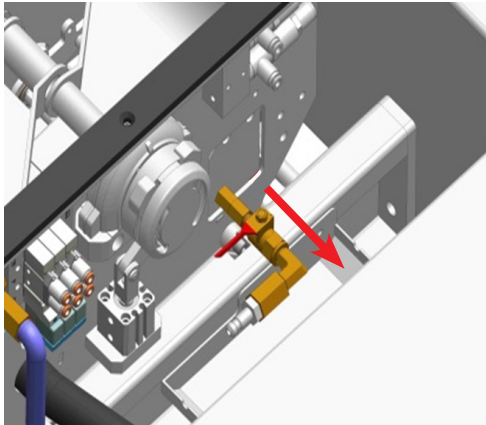

Figure 57: Remove Water Pot
4. Remove water pot from tape head, (refer to Figure 57).